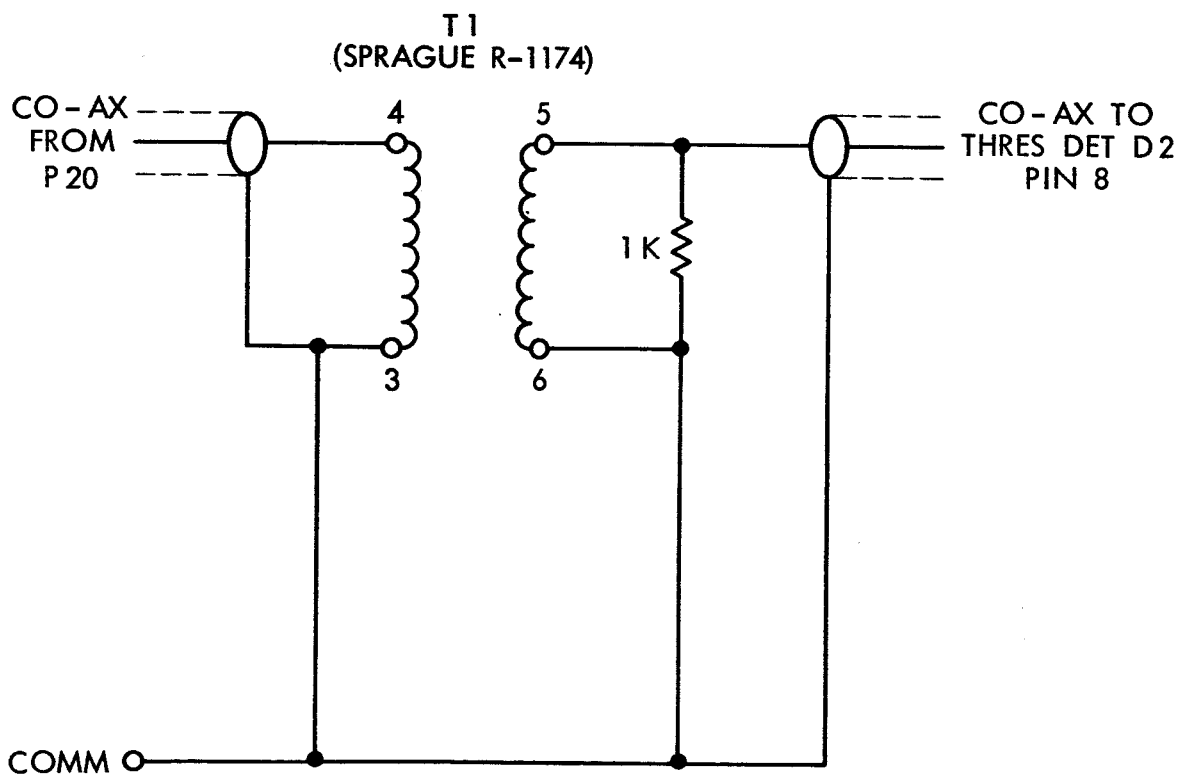

Figure 7. ADCR Mark 9, Board No. 4, Transformer and Connections for Channel D.
- 6. Place transformer (Sprague R-1174) between input co-ax cable from P20 and terminal 8 of the D2 threshold detector as shown in Figure 7.